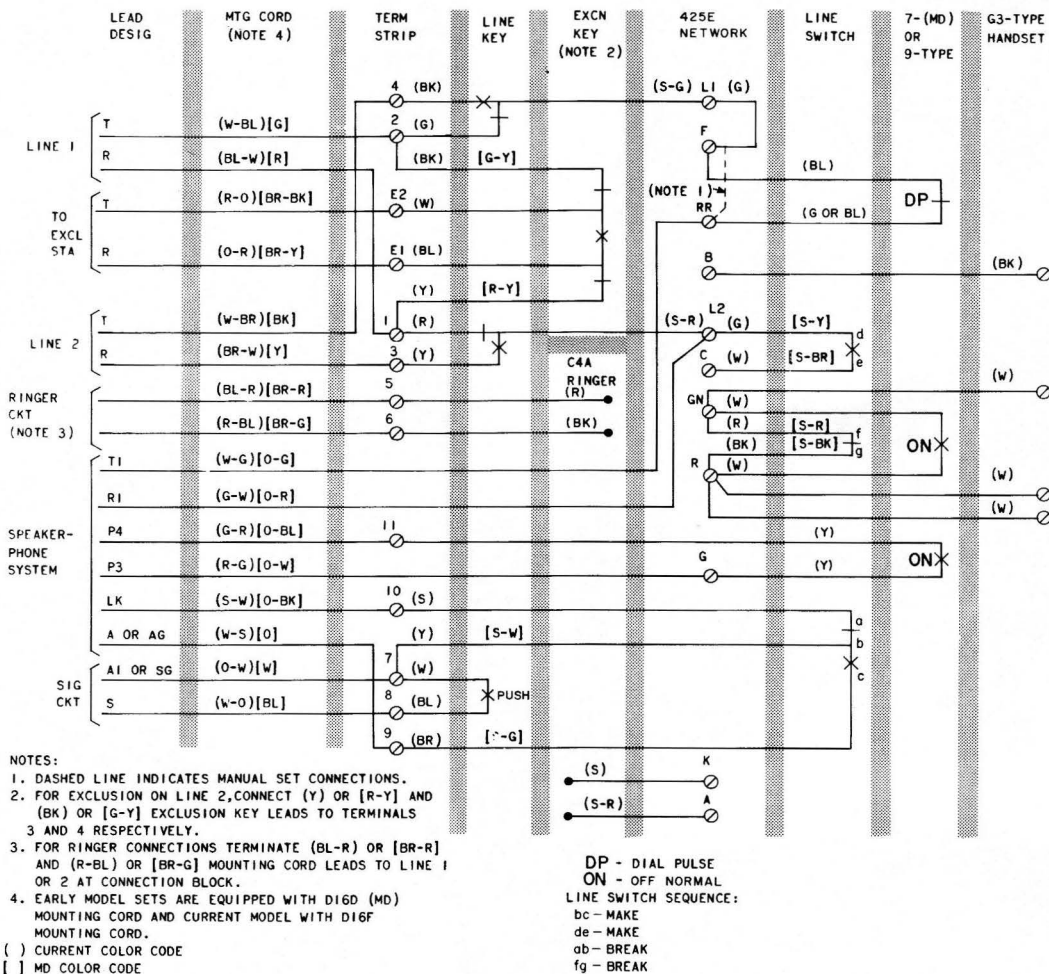

Fig. 1—511C/D (MD) Telephone Set, Connections
1.01 Reissued to add nontechnical changes to Fig. 1.